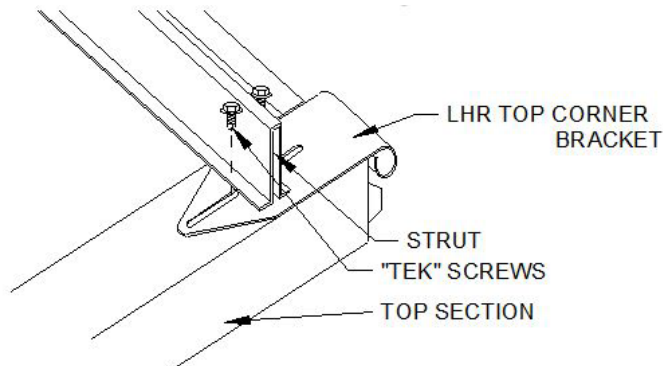
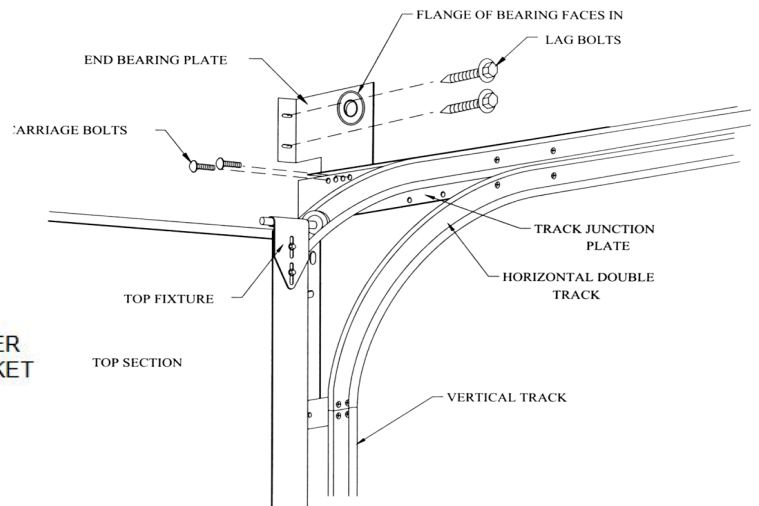

Figure 1a
Figure 1
- The top corner brackets are different and are installed at the very top of the top section. See figure 1. **If your door requires a strut on the top section, it must be installed over the top of the top bracket, using the holes in the top bracket. See figure 1a.**
After mounting the horizontal tracks, as explained in the standard instructions, fasten the end bearing plates to the track junction plates and to the wall. Both the end bearing plate to the track junction plate with 5/16" x 3/4" carriage bolts and lag the end bearing plate foot to the wall with the 5/16" x 1 5/8" lag bolts provided. See figure 1.